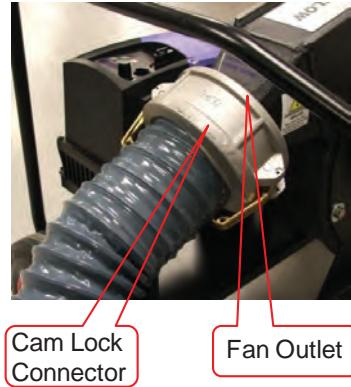
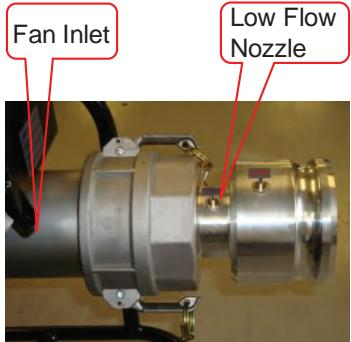

Figure 6. Positive Pressure, High-Flow Setup
Figure 7. Positive Pressure, Low-Flow Setup
- For positive pressure, high-flow testing, remove the low flow nozzle if it is installed. Then, connect the gray cast-aluminum cam lock connector to the outlet side of the blower per Figure 6. Close both cam lock arms at the same time to ensure proper fit.
- For positive pressure, low-flow testing, add the low-flow nozzle to the blower inlet if it is not installed per Figure 7. Then, connect the gray cast-aluminum cam lock connector to the outlet side of the blower per Figure 6. Close both cam lock arms at the same time to ensure proper fit.